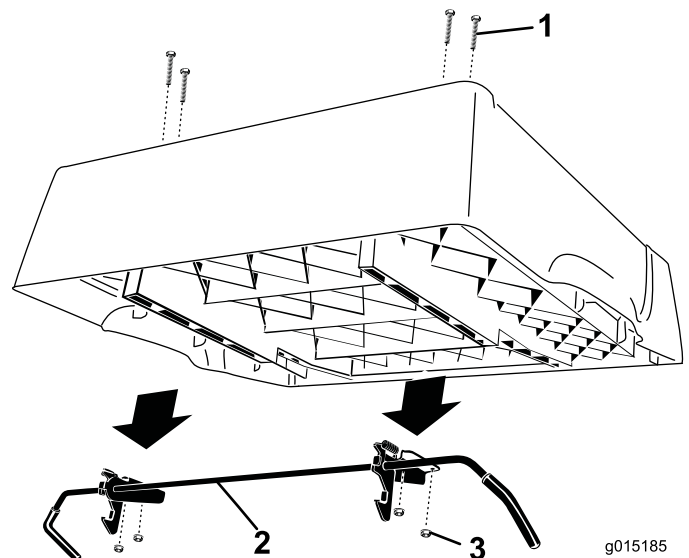

Figure 3
5. Remove the 4 flange nuts securing the latch rod brackets to the underside of the box (Figure 3). Remove and save the rod and latches. Leave the carriage bolts in the holes and secure them to the bed with the flange nuts.